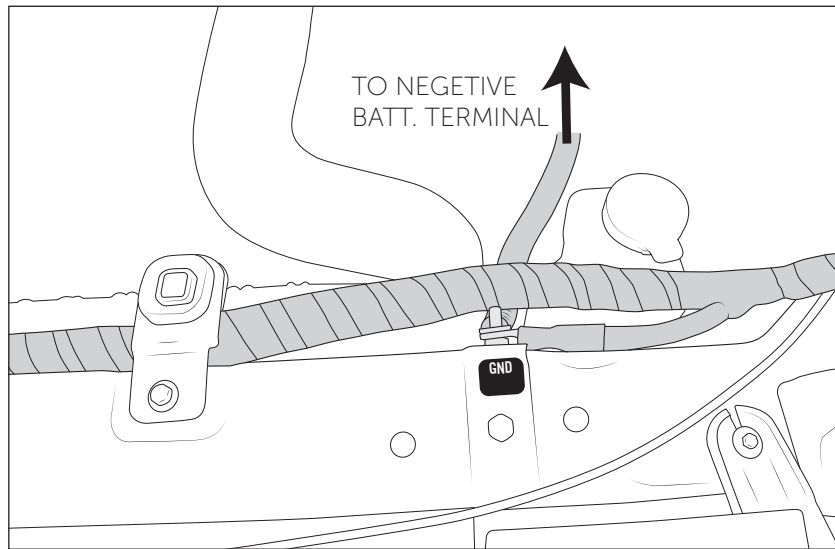

Figure 15
8. Attach ground from the main harness to the ground stud. Attach the supplied ground cable to the ground stud, routing the other end toward the battery. (fig. 15).